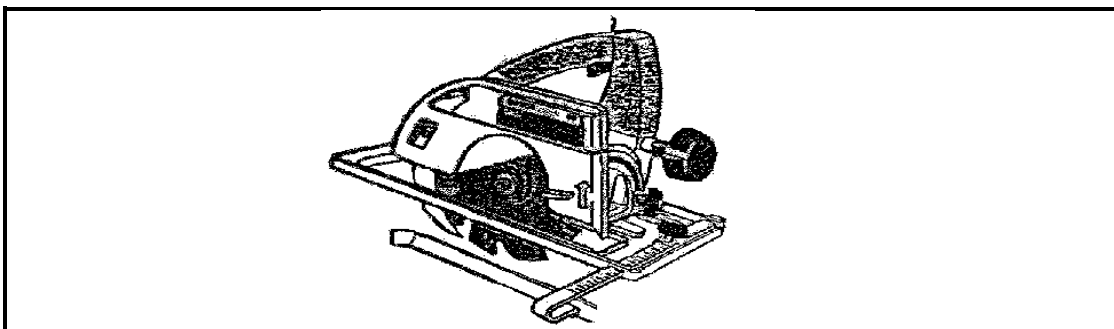

FIGURE 2.5
- 2.5 Answer the following questions with regard to the tool in FIGURE 2.5.